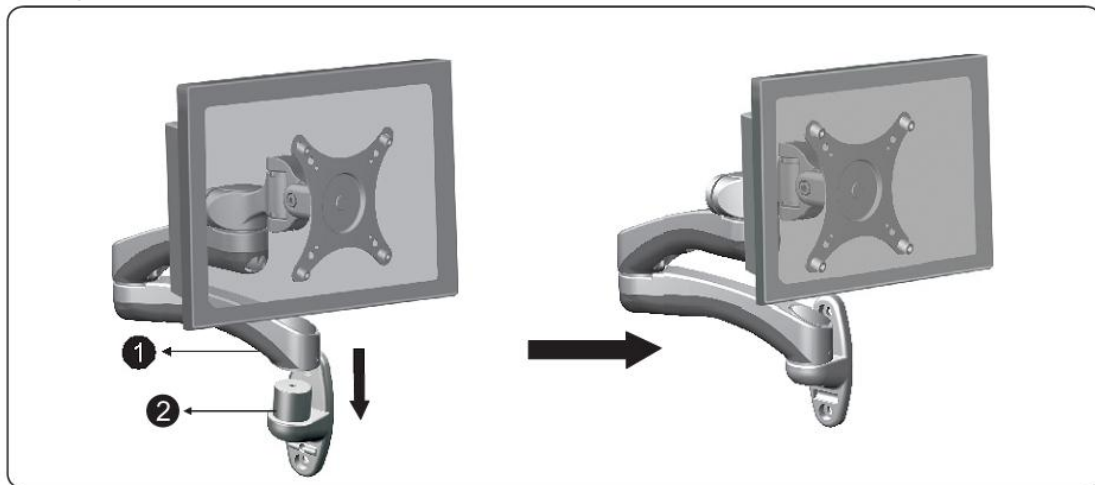

Figure 3-1
1. Attach the Wall Mount LCD Arm Assembly (1) to Wall Plate (2) by placing the LCD Arm Assembly downward, onto the top of the Wall Plate pole (See Figure 3-1).